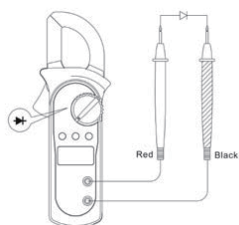

Figure 6
D. Testing Diodes (See Figure 6)**Warning**